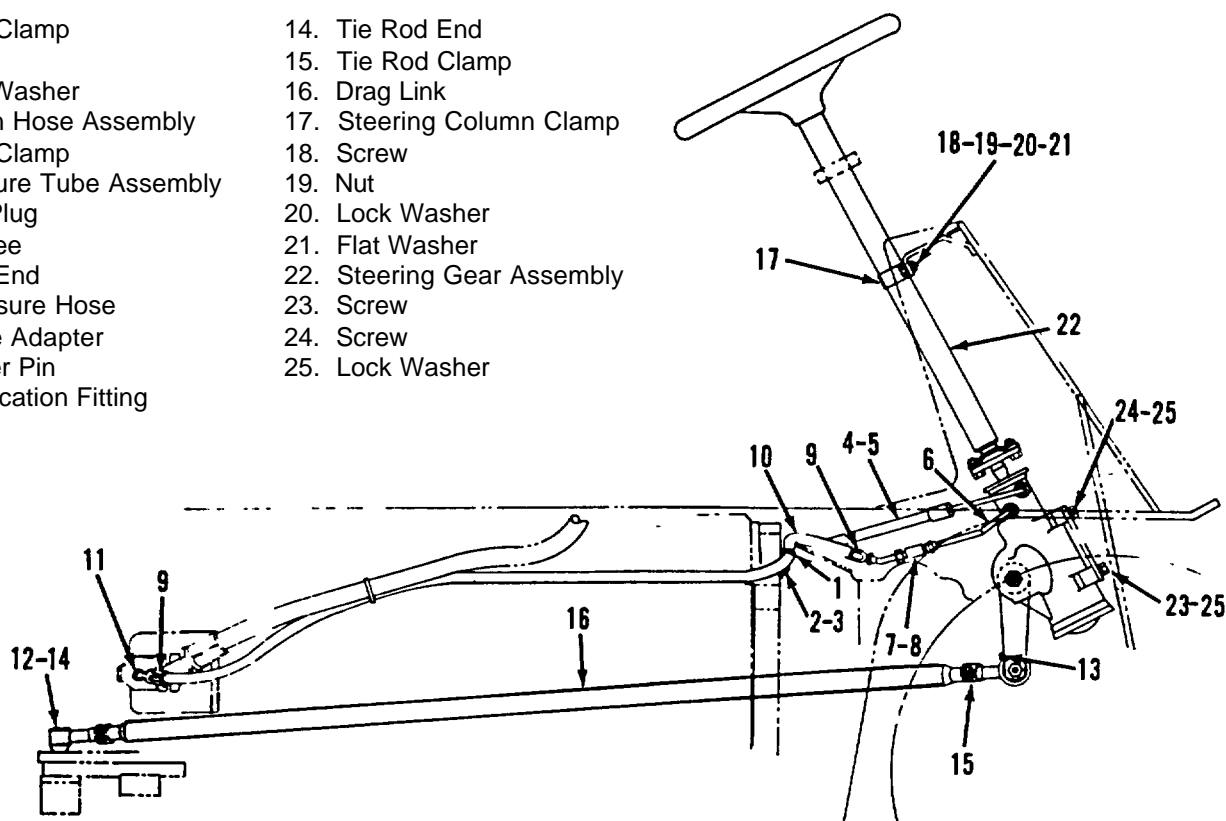
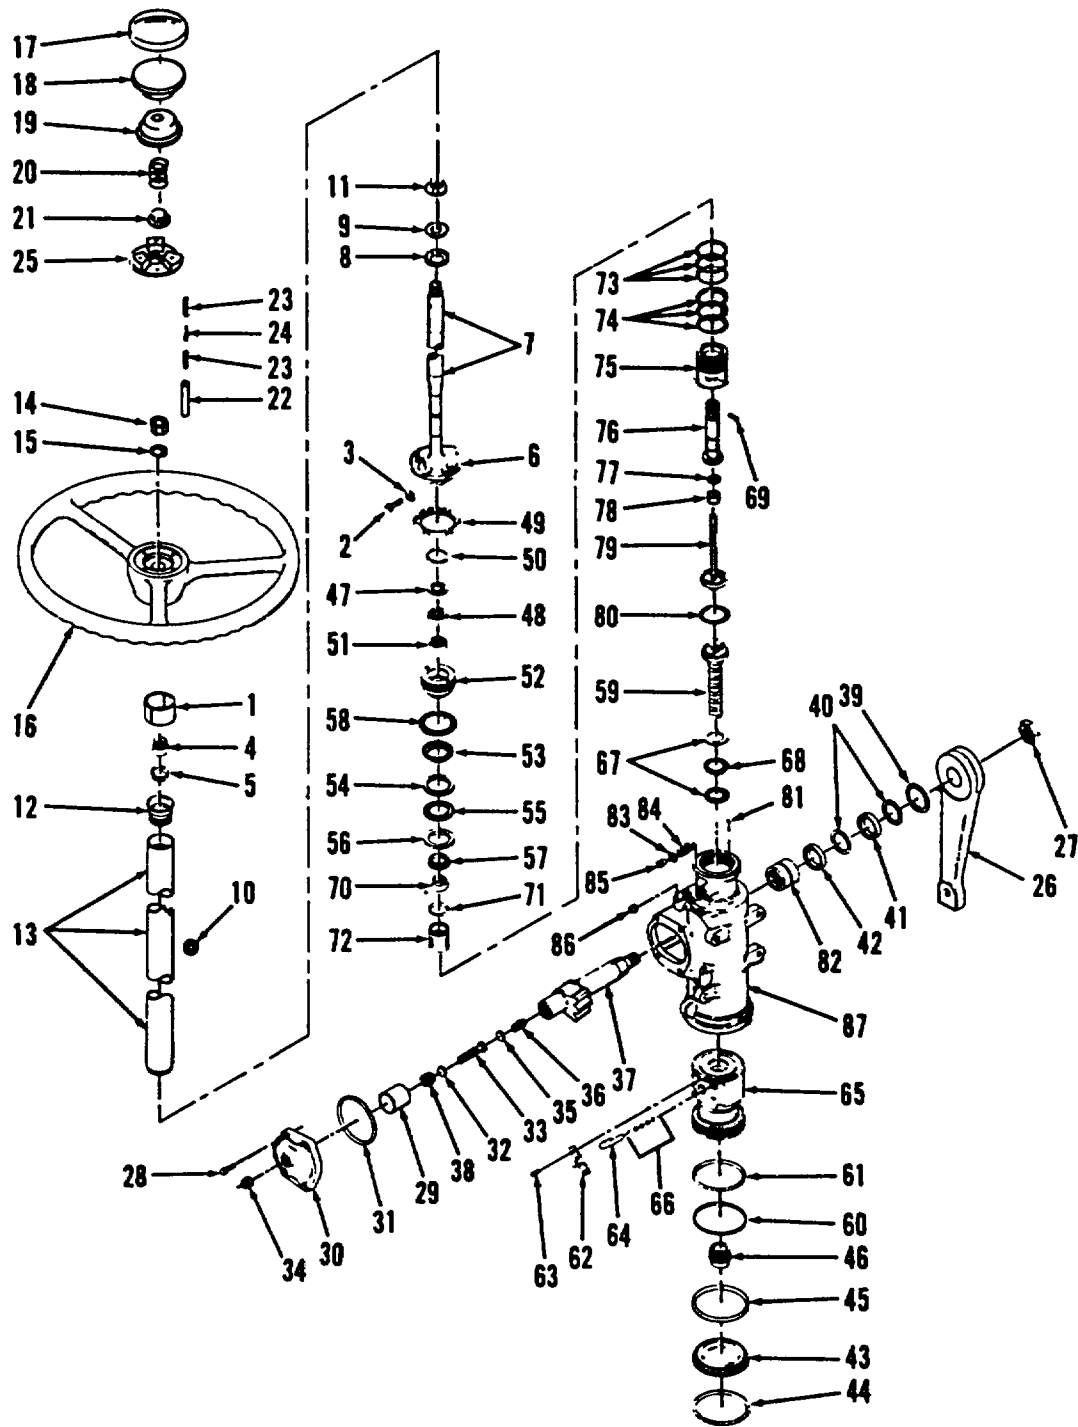
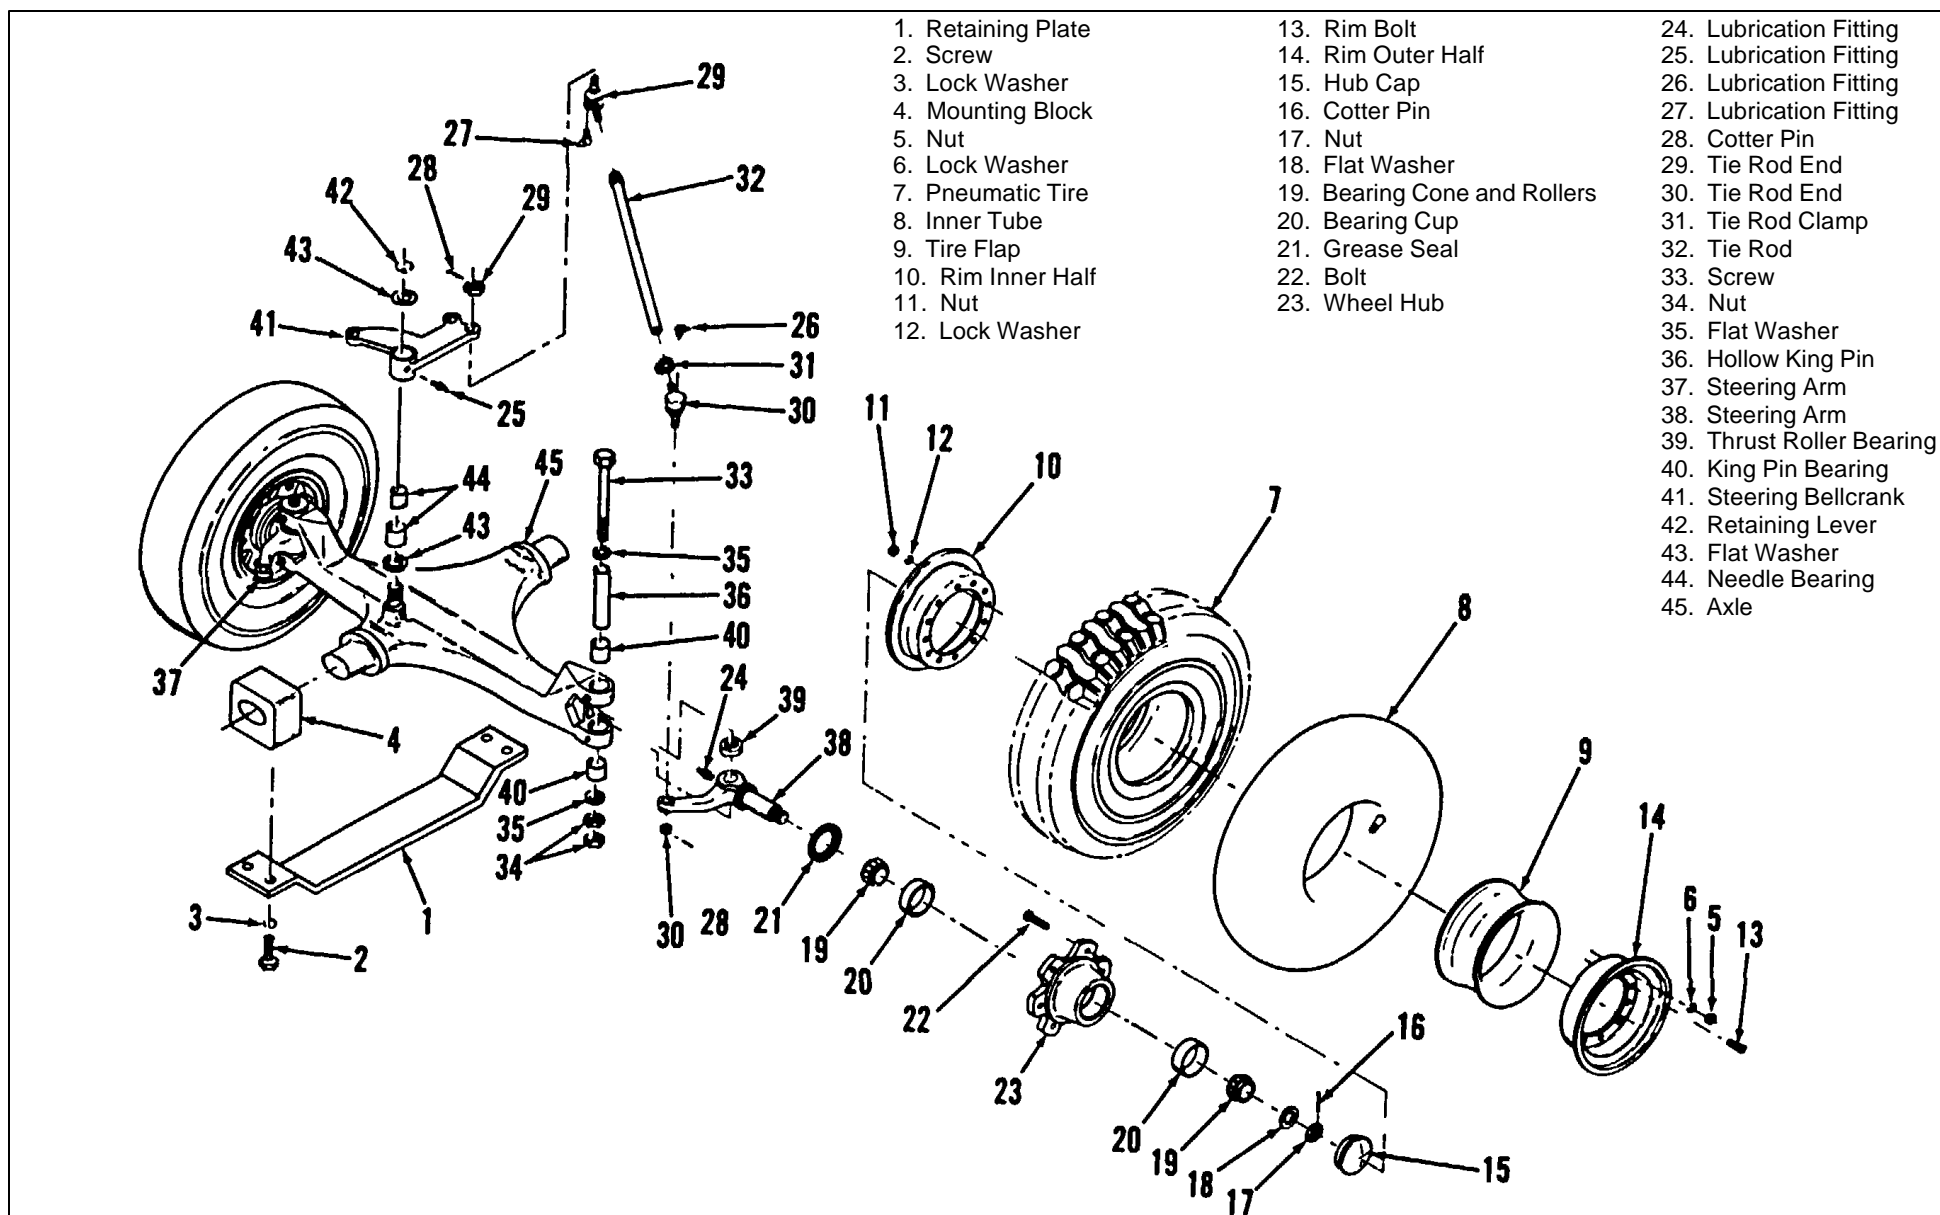

Figure 4-31. Power Steering Arrangement
Figure 4-32. Power Steering Gear Assembly, Exploded View
Figure 4-33. Rear Steering Axle Assembly, Exploded View
5. Remove steering column bracket clamp (17, figure 4-31) and remove steering column (22).
2. Holding steering column (22, figure 4-31) in place, assemble bracket clamp (17) with previously removed attaching parts.
4. Remove capscrews (23 and 24, figure 4-31) and lockwashers (25) attaching steering gear to chassis. Remove gear to clean area.
## Key to Figure 4-32
**4-116. REMOVAL.** Remove floor plate (paragraph 4-19) and remove nut securing drag link (16, figure 4-31) to the steering lever (26, figure 4-32). Remove nut securing drag link (16, figure 4-31) to steering axle bellcrank (41, figure 4-33). Press ball joint studs from respective lever and bellcrank and remove drag link.
1. Loosen clamp (15, figure 4-31) at each end of drag link (16).
2. Remove capscrews (2, figure 4-33) lockwashers (3) and remove axle insulator block bracket (1).
Do not remove bearing cups (20, figure 4-33) from the wheel (23) or bushing (40) from the axle (45) unless inspection indicates need for replacement.
1. Pry hub cap (15) from wheel (23). Remove cotter pin (16), nut (17) and washer (18) from axle spindle (37 and 38).
2. Withdraw wheel (23) from spindle using care not to damage seal (21).
3. Remove four cotter pins and nuts securing tie rod ends (29-30). Using suitable tool, separate taper ball studs from axle spindles and steering bellcrank (41).
4. Remove retaining ring (42) and washer (43) from axle beam (45). Lift bellcrank (41) front pivot post.
5. Remove double nuts (34), washers (35) and capscrew (33) from king pin (36). Press king pin from spindle (37 and 38).
6. Remove spindle (37 and 38) and thrust washer (39) from axle beam (45).
7. Disassemble tie rods (32) in a similar manner as the drag link. See paragraph 4-117.
8. Remove insulating mounting blocks (4) from the axle beam (45).